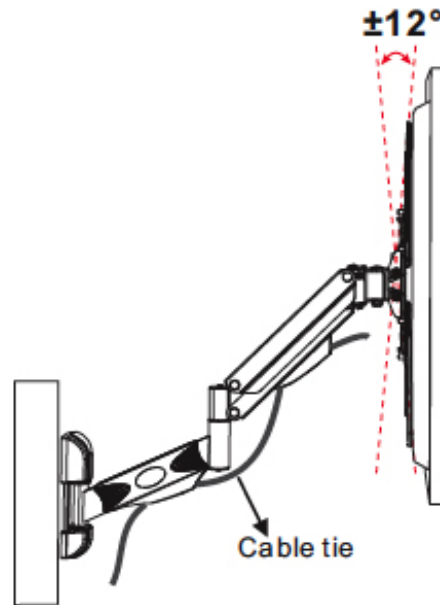

Figure 11
2. Adjust the tilt angle up to 12 degrees up or down for viewing comfort, see **Figure 11**.
3. Route the cables from the TV through the cable management system, see **Figure 11**.